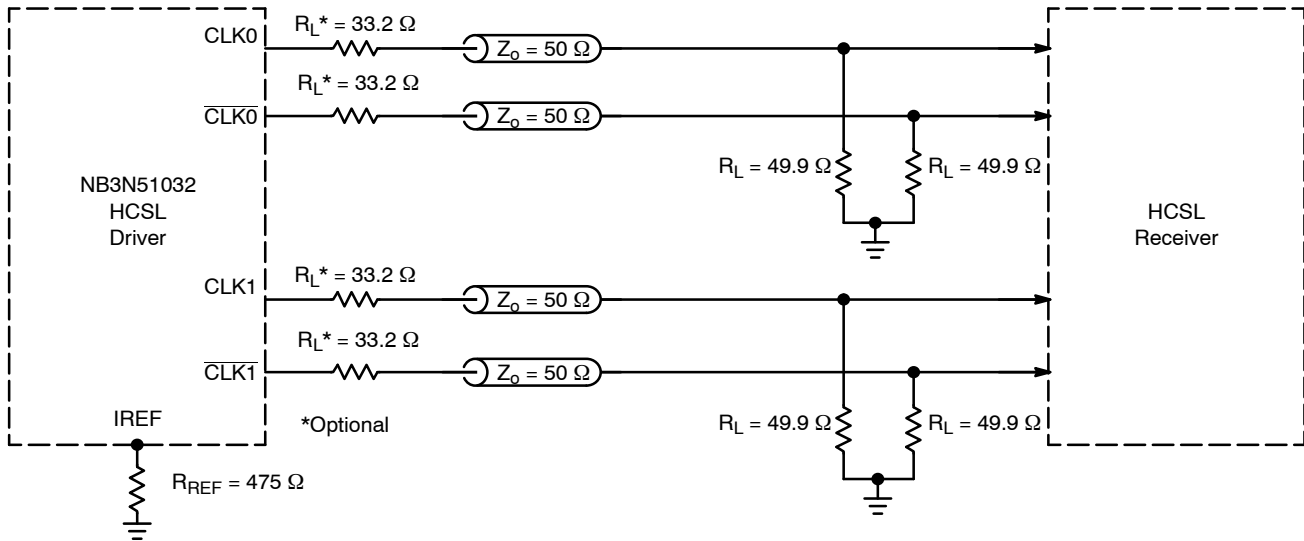

Figure 9. Typical Termination for Output Driver and Device Evaluation
4. VDDXD and VDDODA power pins must be shorted to power supply voltage VDD and GNDXD and GNDODA ground pins must be shorted to power supply ground GND. Measurement taken with outputs terminated with RS = 33.2 Ω, RL = 49.9 Ω, with test load capacitance of 2 pF and current biasing resistor set at 475 Ω. See Figure 9. Guaranteed by characterization.
9. VDDXD and VDDODA power pins must be shorted to power supply voltage  $V_{DD}$  and GNDXD and GNDODA ground pins must be shorted to power supply ground GND. Measurement taken from differential output on single-ended channel terminated with  $R_S = 33.2 \Omega$ ,  $R_L = 49.9 \Omega$ , with test load capacitance of 2 pF and current biasing resistor set at 475  $\Omega$ . See Figure 9. Guaranteed by characterization.
The outputs can be terminated to drive HCSL receiver (see Figure 9) or LVDS receiver (see Figure 10). HCSL output interface requires  $49.9\ \Omega$  termination resistors to GND for generating the output levels. LVDS output